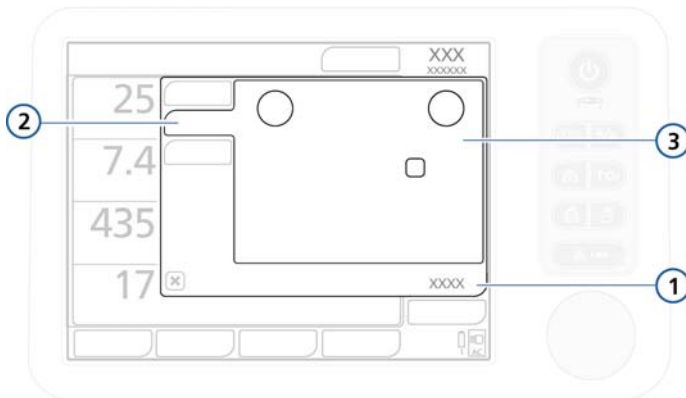

Figure 4-6. More settings, Controls window
3. Open the **Controls** -> **More** window (Figure 4-6), and select and adjust parameters as desired.
2. Open the **Controls** -> **More** window (Figure 4-6), and select and adjust parameters as desired.